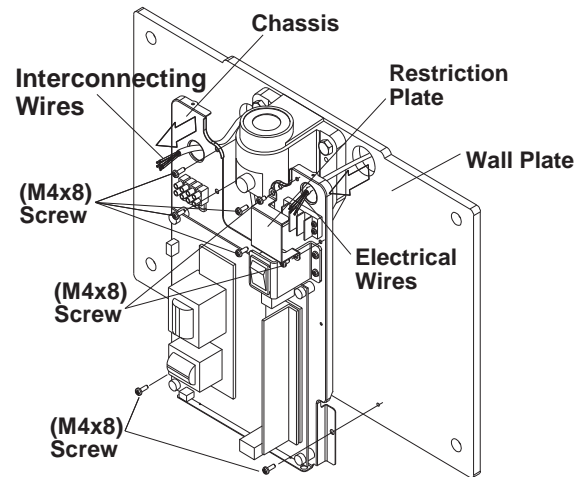

Fig. 3-6 Attaching Chassis to Wall Plate
1. Remove the restriction plate over the terminal blocks by taking out two (M 4 x 8mm) screws. (**Fig.3-6**)
2. Route electrical interconnecting wires and power supply wires through the access holes on chassis and mount the chassis on the arm bracket with three of four (M4 x 8mm) screws. (A screw at lower right corner should be secured with a green wire from arm at setp 6 on this page. Secure the bottom corner of chassis with two (M4 x 8mm) screws to the wall plate. (**Fig.3-6**)